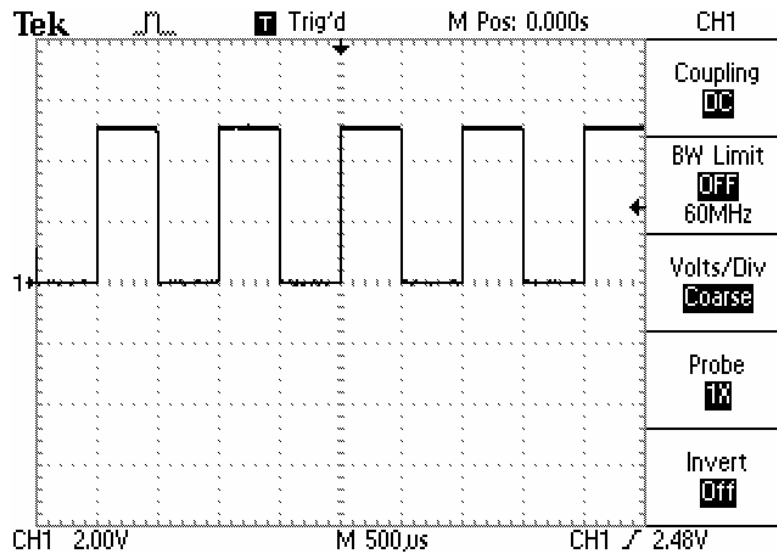

Figure 3: Oscilloscope Display of Probe Comp ~ 5V \square
8. [] Verify the waveform looks very similar to Figure 3.